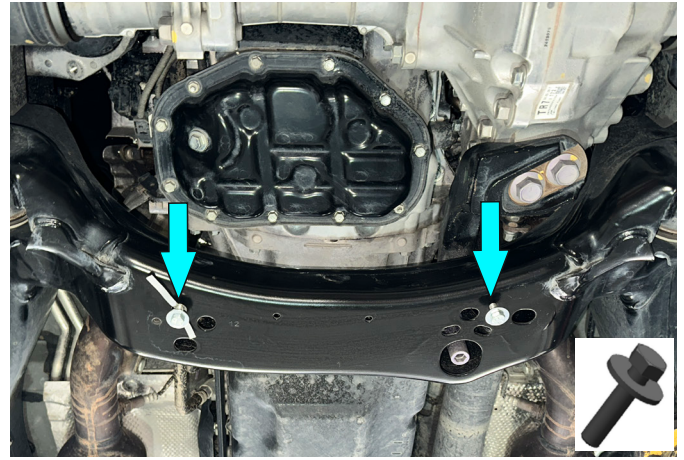

Fig. 2
2. Loosely insert supplied bolts M8x30 with washers M8 (items B, C) as shown in fig. 2.